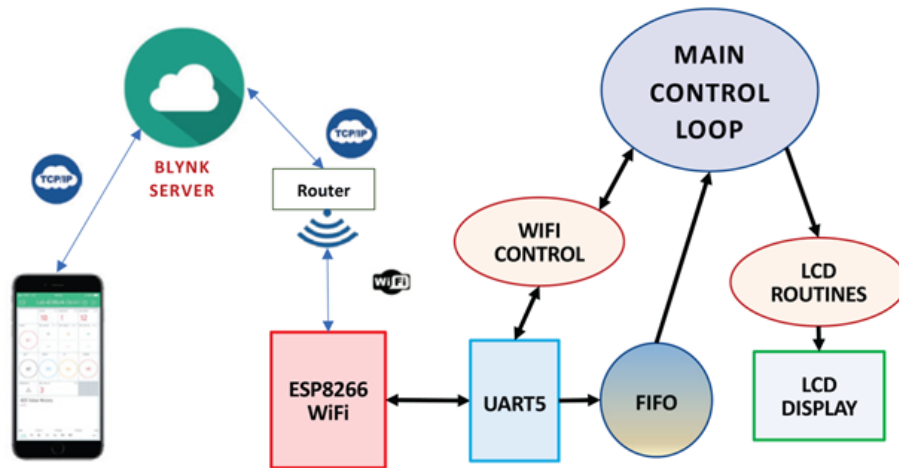

Figure 4.1
- Implement a “smart object” that connects to a phone application (Blynk) via a cloud based server using the ESP8266 WiFi module connected to the TM4C123. (Fig 4.1)
- Replace the manual switches from Lab 3 with Virtual Pin (VP) Switches.